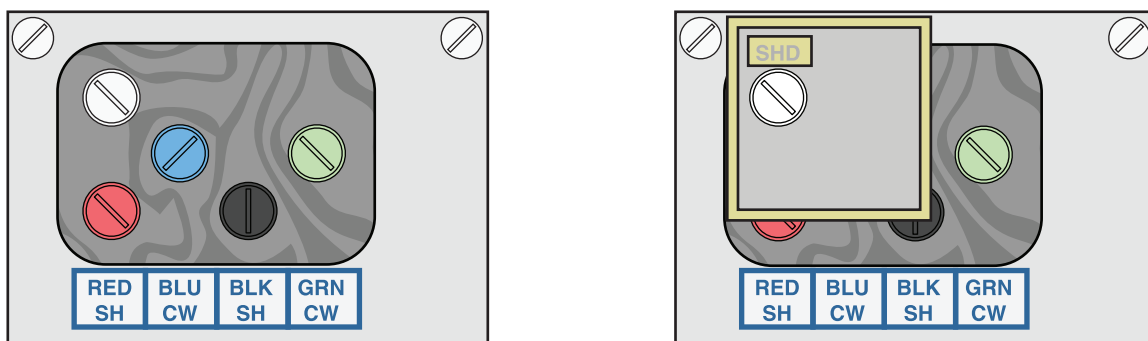

Figure 5-1
1. Disconnect the sensor cable from the electronic unit. Leave the power connected. See Figure 5-1.
2. Put a capacitor, any value from 10 pF to 12 pF, across the blue center (CW) connection and the green ground (gnd).